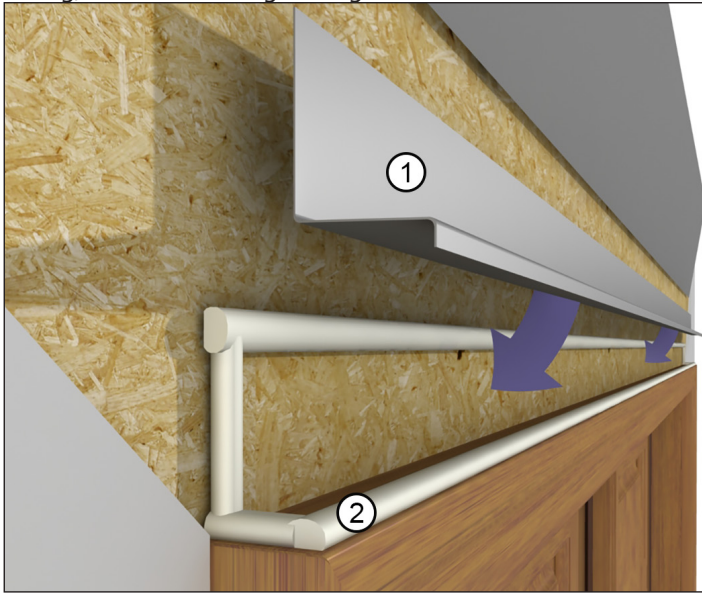

Figure 30
1. Install a drip cap at the head jamb. Be sure to apply a bead of sealant along the back sides of both vertical and horizontal surfaces of the cap that come in contact with the door, door casing, and/or sheathing. See figure 30.